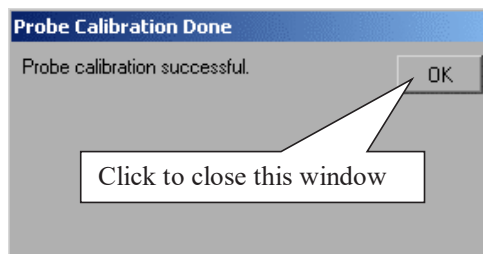

Figure 16 Calibration Window.
- 10 Referring to **Figure 16** below, perform the following steps: